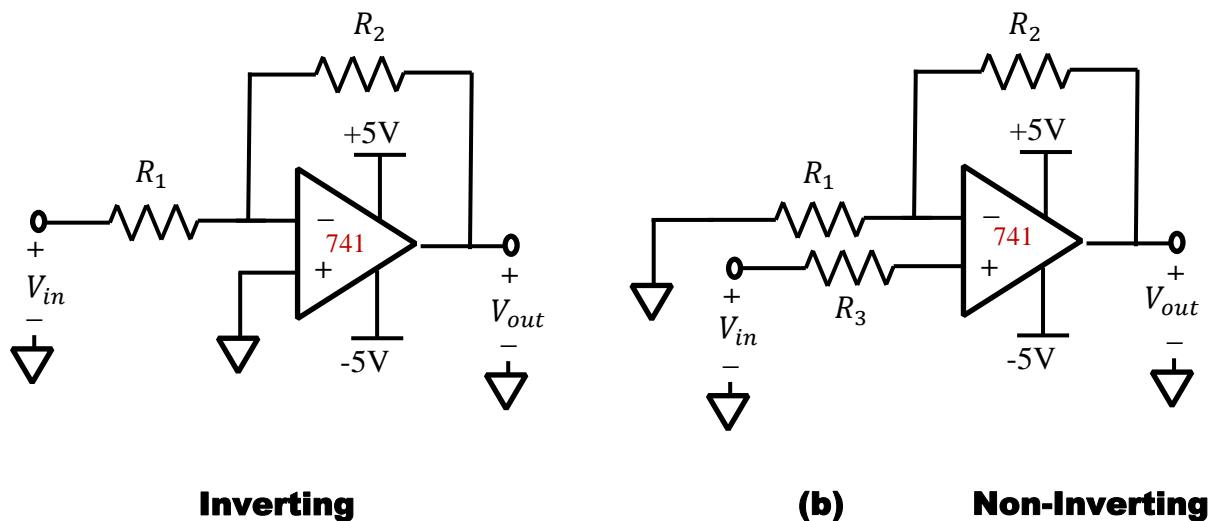

Figure 4.13 – Op-amp based amplifier circuits.
Before we send the detector output voltage to a comparator, it will be helpful to amplify this signal so that there is a substantial difference between the high voltage and the low voltage. Build the inverting amplifier circuit shown in Figure 4.13(a). You can use the +/-5V output on the PMD as the supply voltages. Choose your resistor values so that the circuit provides as much amplification as possible without danger of saturating. Remember, the output of the detector circuit from Task 1 will be the input to this amplifier. Which resistor values did you choose and why? Provide adequate reasoning in your lab report.
Now repeat this task for the non-inverting amplifier configuration shown in Figure 4.13(b). Again, you should justify the resistor values you have chosen and provide a plot of measured  $V_{out}$  vs.  $V_{in}$ . Which amplifier circuit would couple better with the detector circuit of Task 1? Comment on this in your lab report.
- Provide a plot of measured  $V_{out}$  vs.  $V_{in}$  for both amplification circuits in Figure 4.13. Be sure to indicate what your saturation voltages are.